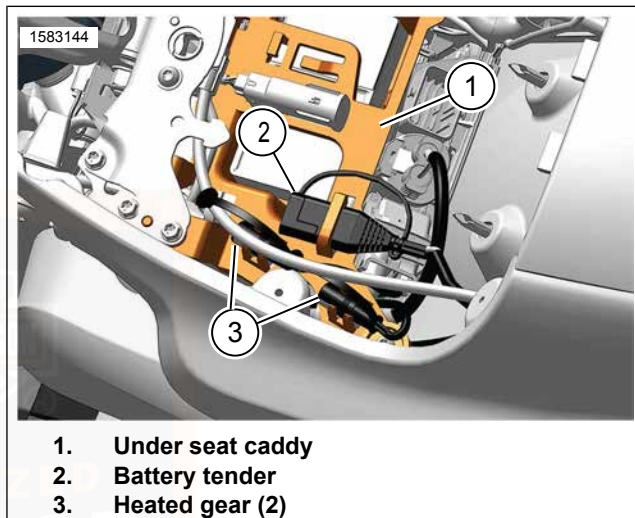
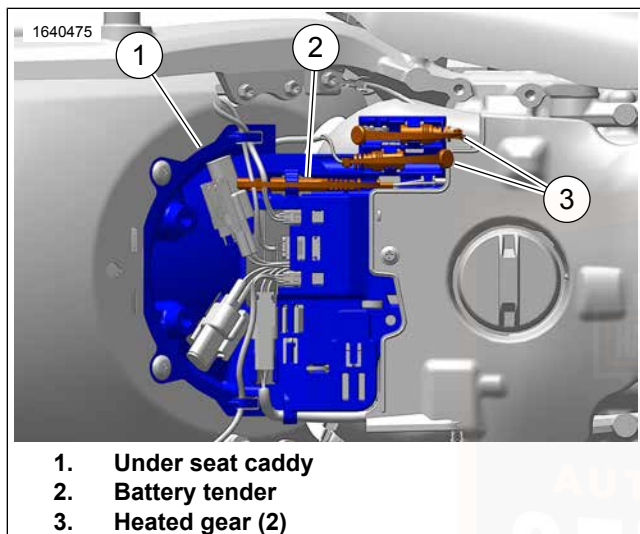

Figure 47. Under Seat (Top Mounted Fuel Tank)
Figure 48. Under Seat (Fuel Tank Under Seat)
See Figure 47 or Figure 48. The heated gear connectors (3) are stored under the seat in the under seat caddy (1). When
2. See Figure 47 or Figure 48. Remove the heated gear connectors (3) from storage location on under seat caddy (1).